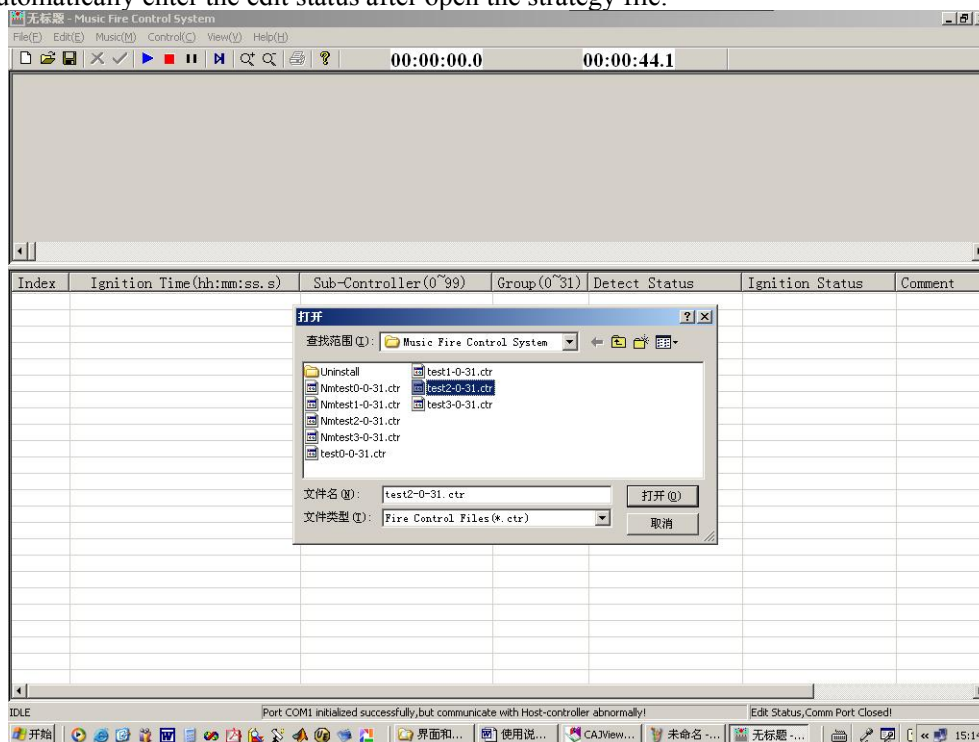

fig 27 Open control file
7、Before SET-OFF, the user can open the saved strategy file directly. As show in the fig 27. The control system automatically enter the edit status after open the strategy file.